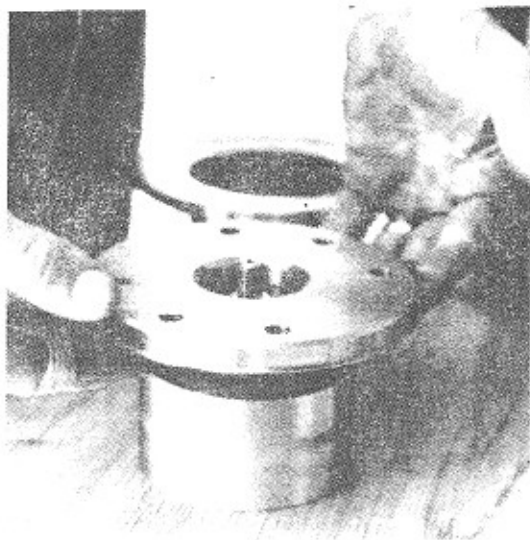

Figure 19
- G. Separate the inner magnet (Part No. 20A) from the casing cover (Part No. 3) being careful of the loose thrust ring (Part No. 29) and the sleeve bearing (Part No. 9) [Fig. 19].